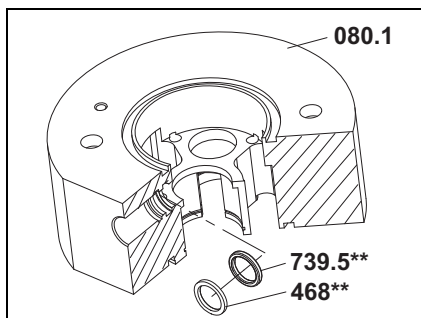

Fig. 18
1. Lay the supporting ring **468**** and o-ring **739.5**** through the hole in the middle of the bearing cover into the pick up hole, see Fig. 18, page 34.